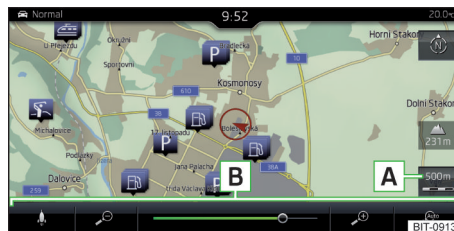
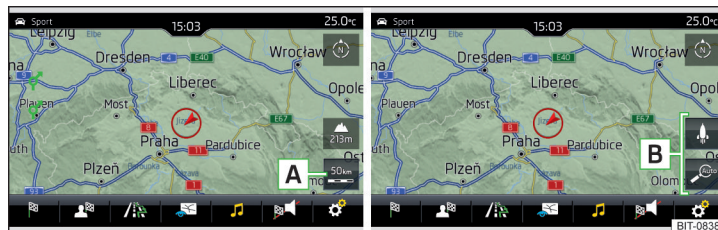

Fig. 228
Fig. 229 Function surfaces for changing the map scale: Infotainment Amundsen
- ▶ Tap on function surface **A** » **Fig. 228** or » **Fig. 229**.
In area **B** » Fig. 228 or » Fig. 229, function surfaces for changing the map scale are displayed.
- ▶ Tap the function surface **A** » Fig. 228 and use the slider or tap the function surface ρ/ρ in area **B** » Fig. 228 (applies to Columbus Infotainment).